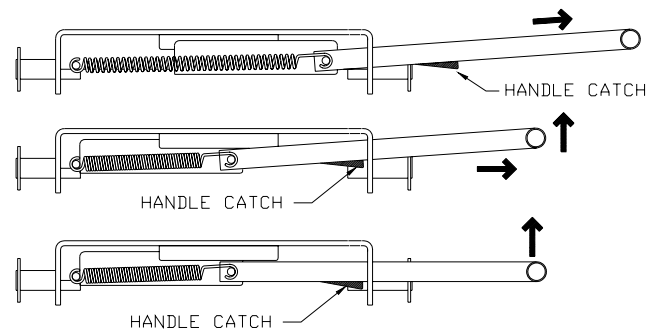

Figure 7
Refer to the drawings in (Figure 7) for the parts identification.
1. To open the locking mechanism, lift and pull the Release Handle out until the Lock Catch engages the Lock Jaw Assembly. (**Figure 7**).
2. As the trailer King Pin moves into the plate, it will contact the Lock Lever, forcing the Lock Catch to disengage the Lock Jaw Assembly, allowing the Main Spring to close the Lock Jaw Assembly behind the King Pin (**Figure 7**). The King Pin must be fully engaged in the plate slot or the Lock Jaw Assembly will not seat properly, and the Handle Catch would not then engage the inner side wall of the Plate. To be certain that the Lock Jaw Assembly has closed fully, attempt to pull the Release Handle without first lifting it. To discourage theft or pranksters, place a padlock through the obround hole above the Release Handle.